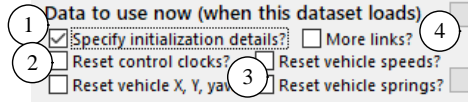

Figure 9. Initialization details that may optionally be displayed.
- (1) **Specify initialization details?** Check this to view four more checkboxes (Figure 9). When unchecked (Figure 8), nothing is written to the Parsfile involving the four initialization options.